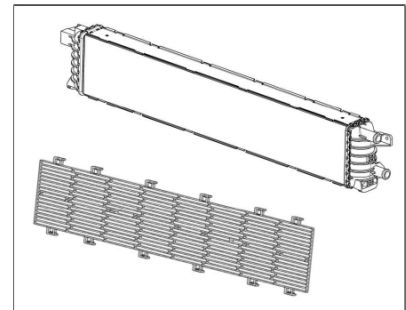
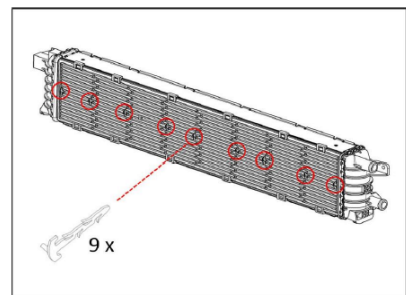

Figure 4. Fit protective grille onto radiator.
Figure 5. Secure grille with nine retaining clips.
2. Fit protective grille onto radiator (Figure 4) and secure with nine retaining clips (Figure 5).